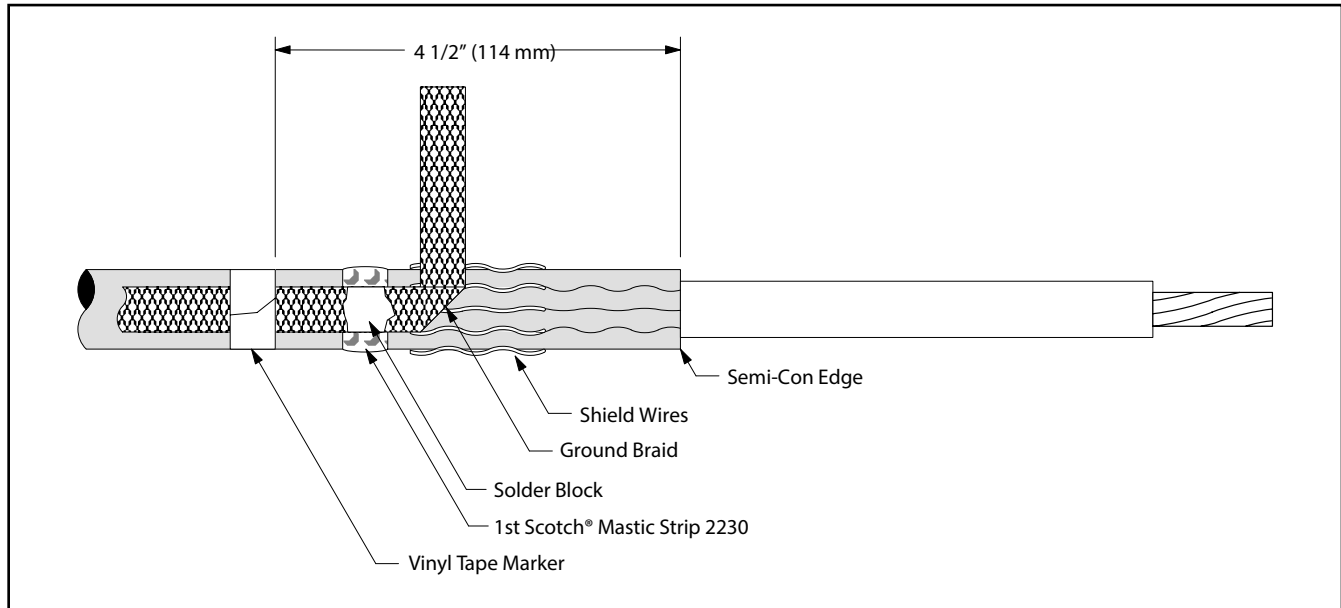

Figure 20
- 13.2 Position pre-formed ground braid with short tail directly over cut edge of folded back shield wires. Position long tail of ground braid, extending over cable semi-conductive jacket with solder block over mastic strip (Figure 20). Secure ground braid to cable semi-conductive jacket 4 1/2" (114 mm) from cable semi-con edge using vinyl tape (Figure 20).